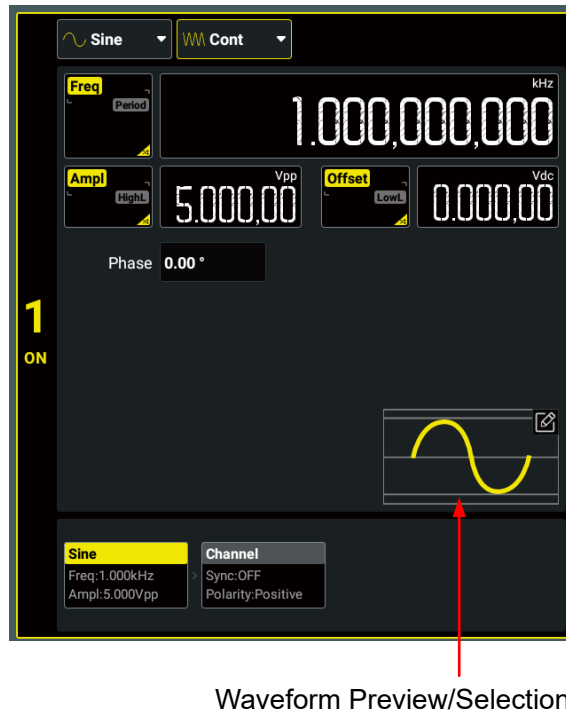

Figure 5.1 Continuous Setting Interface
- In the Continuous Setting Interface (*Figure 5.1*), click or tap the "Wave Type" drop-down button to select "Sine".
- In the Continuous Setting Interface (*Figure 5.1*), click or tap the "Waveform Preview/Selection" area and then click or tap **Built In Wforms** > **Sine**.
- In the Continuous Setting Interface (*Figure 5.1*), click or tap the "Basic Wave Type" drop-down button to select "Square".
- In the Continuous Setting Interface (*Figure 5.1*), click or tap the "Waveform Preview/Selection" area and then click or tap **Built In Wforms** > **Square**.
- In the Continuous Setting Interface (*Figure 5.1*), click or tap the "Wave Type" drop-down button to select "Ramp".